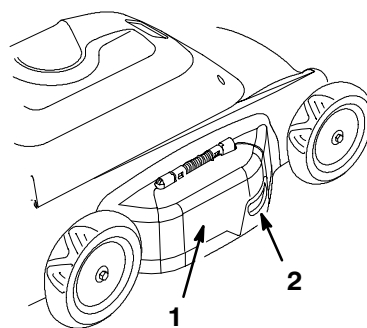

Figure 7
1. Use the handle on the mulch door to raise the door (Fig. 7).
Toro designed your lawn mower to mulch grass when the mulch door is completely closed (Fig. 7). For the best cutting results and lawn appearance, follow these instructions whether cutting grass or leaves: